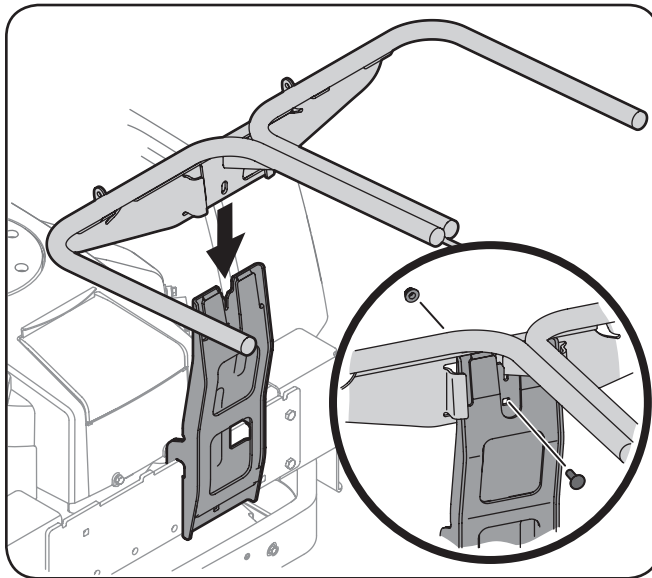

Figure 4-5
- Install and secure the hanger assembly onto the upright support bracket using a 710-0276 carriage bolt and 712-04063 flange nut from hardware pack 689-00320. See Figure 4-5.